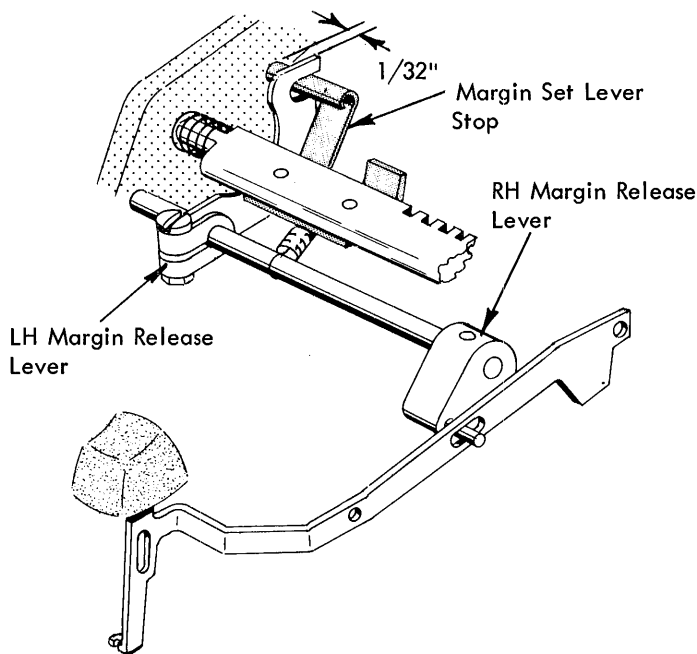

FIGURE 249. Margin Release Mechanism (15 Inch - Late)
1. Laterally so that $1/32$ " of the rolled pin on the margin set lever stop protrudes beyond the left face of the left hand margin release lever (Fig. 249).